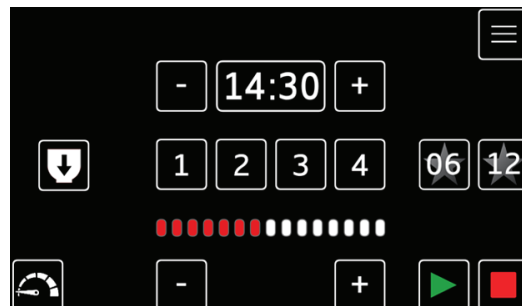

Figure 17-2.
1. Press the “star” button to select one of the programmed favorite recipes. (Figure 17-2).